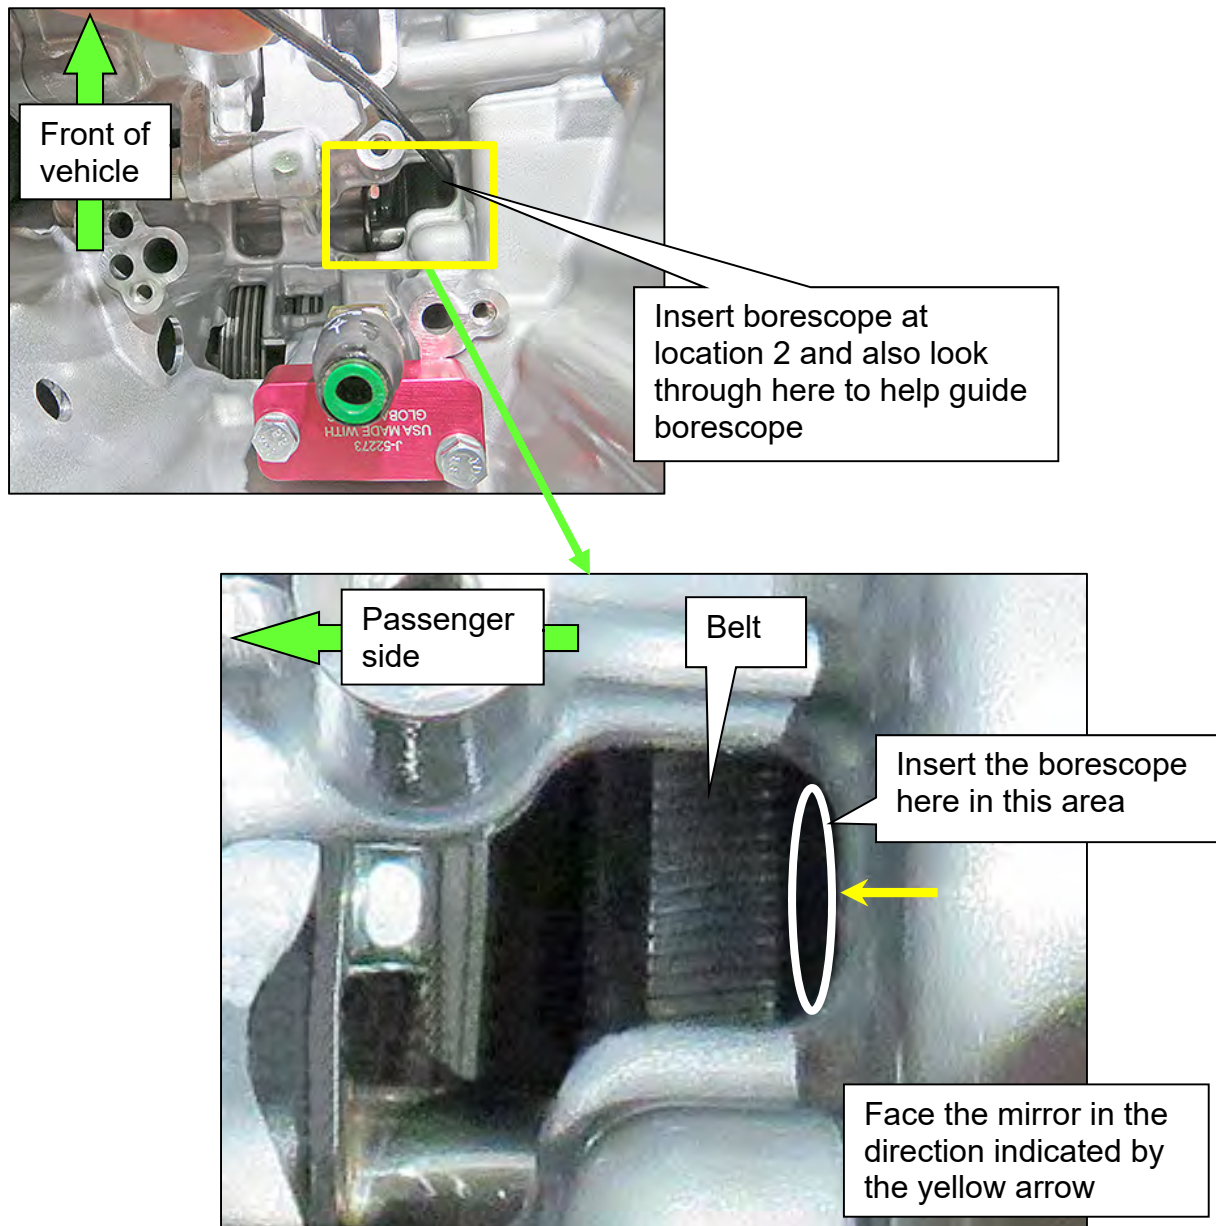

Figure 13
- Insert the borescope in the second location where shown in Figure 13.